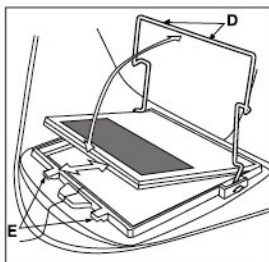

Figure.8
- Change the Shade Cartridge. See Figure.8 and Figure.9.